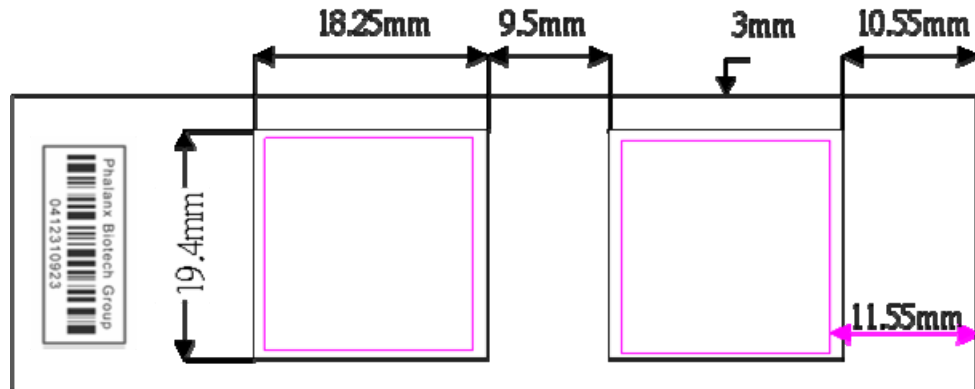

Figure 1: miRNA OneArray™ Microarray Glass Slide with “Probe Printed Region Guide” Plastic Underlay
- 7) Place the miRNA OneArray™ slide, bar code up, atop the “Probe Printed Region Guide” (included, see Figure 1).